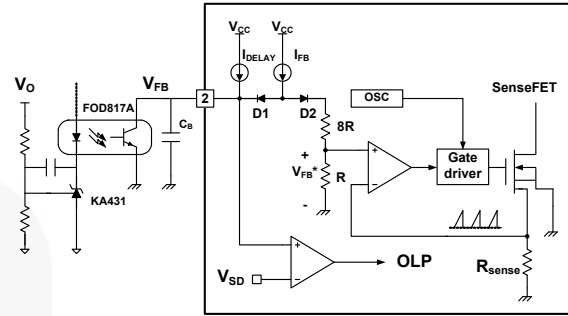

Figure 16. Pulse Width Modulation (PWM) Circuit
**2. Feedback Control:** FSQ500L employs current mode control, as shown in Figure 16. An opto-coupler (such as the FOD817A) and shunt regulator (such as the KA431) are typically used to implement the feedback network. Comparing the feedback voltage with the voltage across the  $R_{sense}$  resistor makes it possible to control the switching duty cycle. When the reference pin voltage of the regulator exceeds the internal reference voltage of 2.5V, the opto-coupler LED current increases, pulling down the feedback voltage and reducing the duty cycle. This typically happens when the line input voltage increases or the output load current decreases.
**2.1 Pulse-by-Pulse Current Limit:** Because current mode control is employed, the peak current through the senseFET is limited by the non-inverting input of PWM comparator ( $V_{FB}^*$ ), as shown in Figure 16. Assuming that  $225\mu A$  current source flows only through the internal resistor ( $8R + R = 12k\Omega$ ), the cathode voltage of diode D2 is about 2.7V. Since D1 is blocked when the feedback voltage ( $V_{FB}$ ) exceeds 2.7V, the maximum voltage of the cathode of D2 is clamped at this voltage, clamping  $V_{FB}^*$ . Therefore, the peak value of the current through the senseFET is limited.